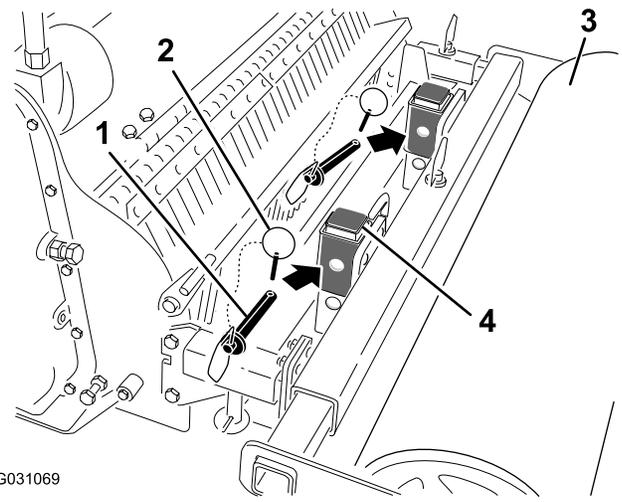

Figure 7
2. Remove the drift pins from the grader-blade mounting posts (Figure 7).